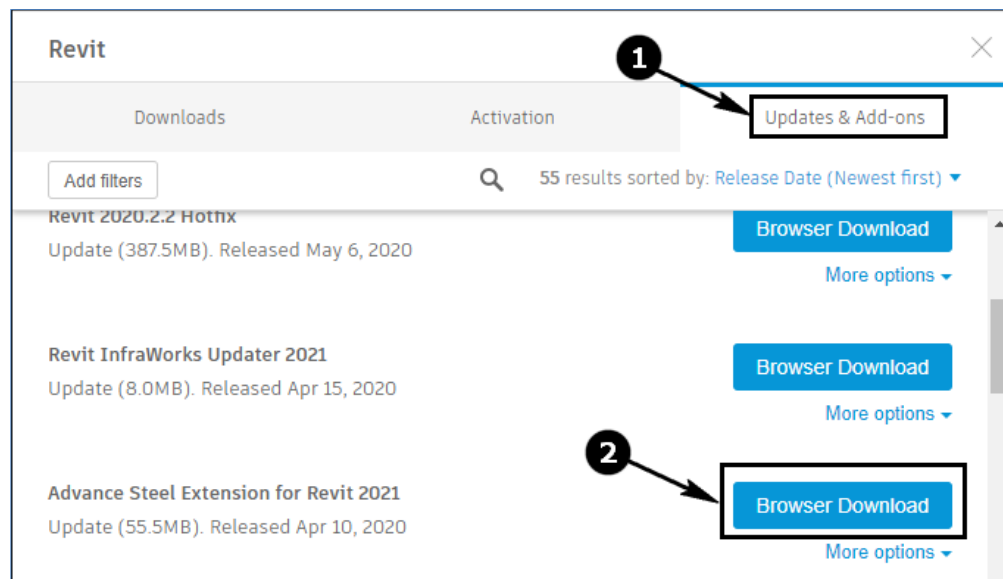

FIGURE 5: DOWNLOADING THE **ADVANCE STEEL EXTENSION** ADD-IN
4. Click on the **Updates & Add-ons** tab, labeled as 1 in Figure 5.
5. From the right of the **Advance Steel Extension for Revit 2021** add-on, click **Browser download**, labeled as 2 in Figure 5; the add-in will start to download.